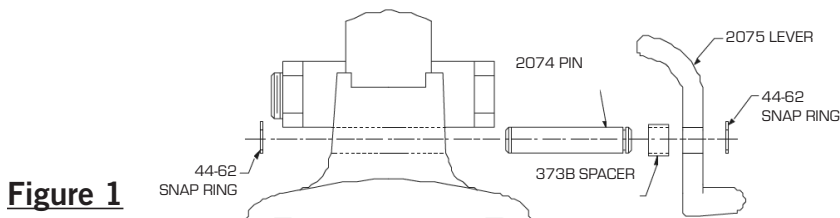

Figure 1
2. Determine which side the 2075 lever will be installed, then slide 373B spacer over 2074 pin on same side (see figure 1).